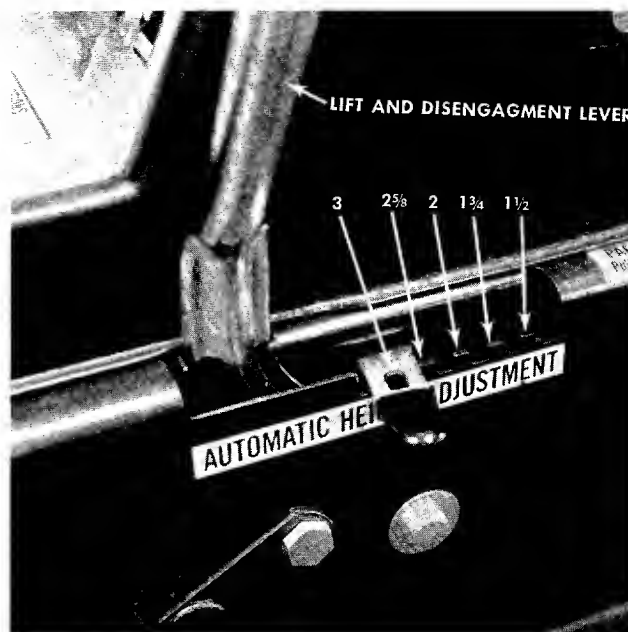

FIGURE 13. HEIGHT OF CUT SETTINGS
The engine will not start unless the lift and disengagement lever is in the disengaged position. See figure 13.
Height Of Cut Stop. See figure 13. Lift the stop and set it at the desired cutting height. Allow the lift and disengagement lever to come forward to rest against the height of cut stop.
To set the cutting deck in the full float position: set the wheel height adjusters in the desired cutting height as indicated in figures 14 or 15. Set height of cut stop in the 1 1/2 position. See figure 13.
- Step 1. Place the lift and disengagement lever in the disengaged position. See figure 13.